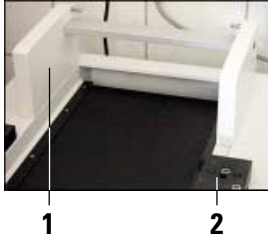

Fig. 4.2
- Place the carrier (1, Fig. 4.2) for the ultramilling attachment (3, Fig. 4.3) on the rear part of the Leica SM2500 microtome fitting the two pins of the carrier into the corresponding bores in the Leica SM2500 microtome.
- Lower the bearing blocks (2) of the microtome as far as they will go (use button (51), chapter 5.4.13, p. 36 - Leica SM2500 manual).